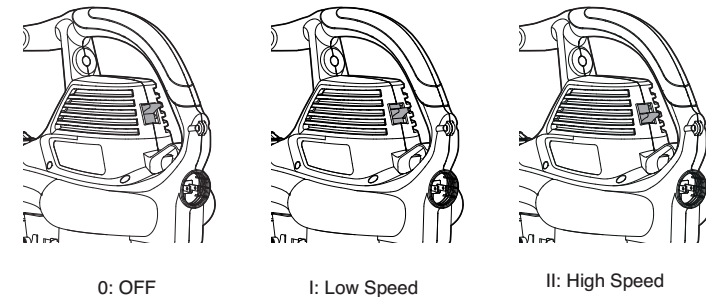

Fig. 8
- To stop the blower, place the power switch in 0 (OFF) position. (Fig. 8)